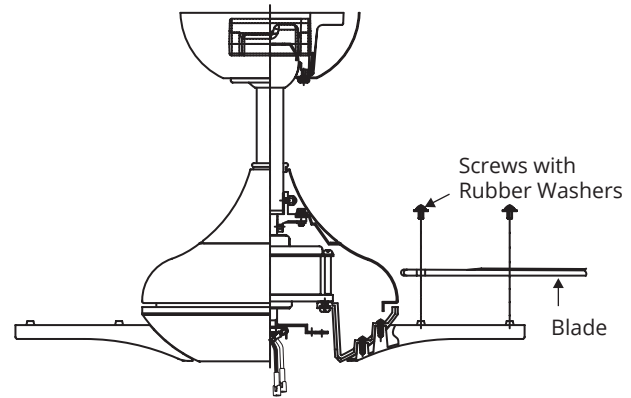

FIGURE 17
1. Attach the blade to the blade arm using the screws with rubber washers as shown in Figure 17. Start screw into blade arm. Repeat for the two remaining screws.